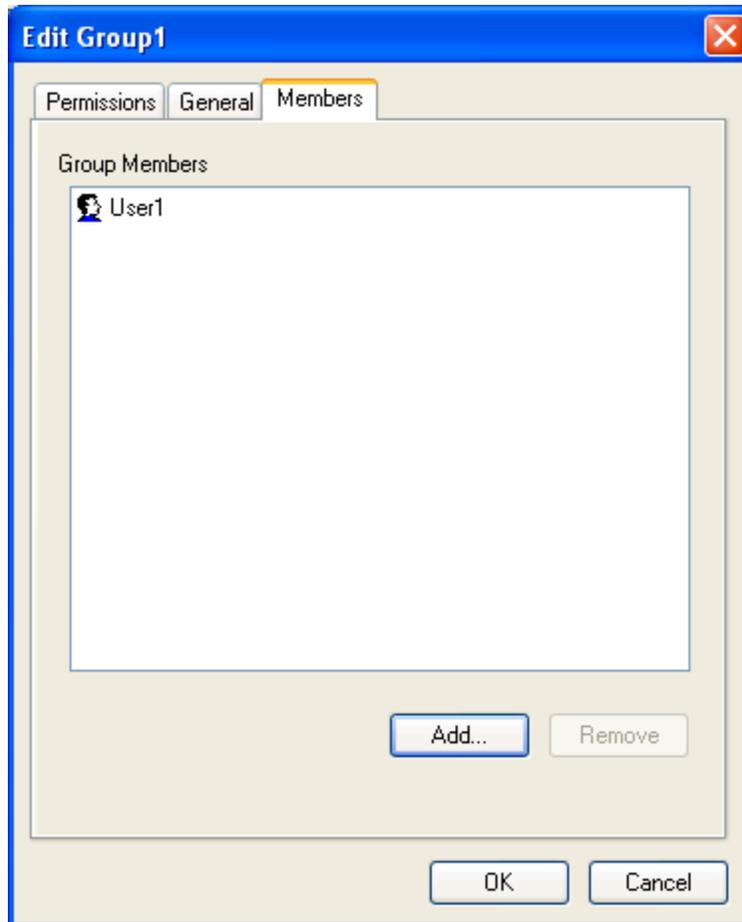

Figure 60 - Edit <Groupname> Window (Members Tab)
On the **Members** tab (Figure 60), the users that are part of the current group are defined. By default, the **Group Members** screen section is empty. In Figure 60, **User1** has been added to **Group1**.
3. Click on the **OK** button. The selected user or users appear in the **Group Members** screen section on the **Members** tab (Figure 60).